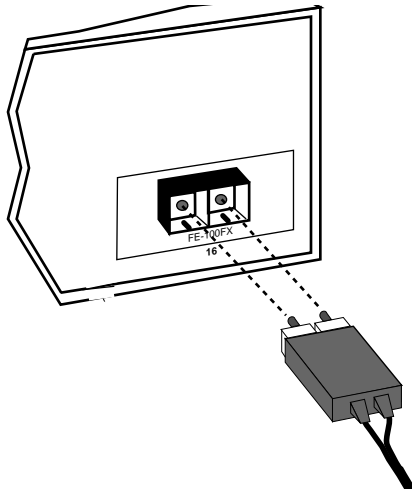

Figure 2-8. FE-100FX Port
The FE-100FX has an SC style network port (see Figure 2-8). Cabletron Systems supplies fiber optic cable that uses SC style connectors that are keyed to ensure proper crossing over of the transmit and receive fibers.
2. Insert one end of the SC connector into the FE-100FX installed in the ELS10-26. See Figure 2-8.